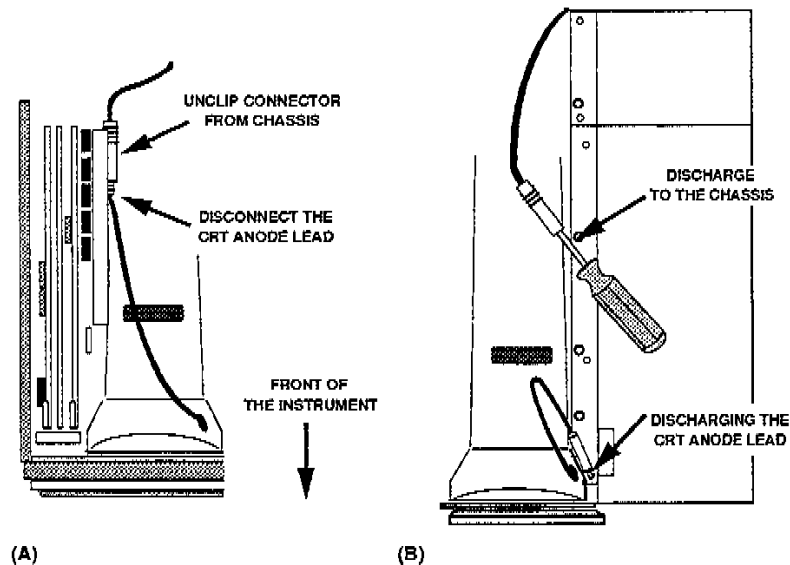

Figure 4-32. Discharging the CRT anode lead to the chassis.
1. Disconnect the ceramic connector above the CRT, refer to Figure 4-32 (A).
3. Insert the metal end of the male connector into one of the empty holes at the top of the card cage, refer to Figure 4-32 (B). Be certain the metal connector is touching the chassis.
4. Insert the blade of an insulated screwdriver into the female connector and short the blade to the chassis, refer to Figure 4-32 (B).
1. Remove the Processor System card cage cover to gain access to the CRT anode connector, and then discharge the CRT anode connector as described in Figure 4-32.
- Disconnect the ceramic insulator above the CRT; refer to Figure 4-32 (A).
- Insert the metal end of the male connector into one of the empty holes at the top of the card cage, refer to Figure 4-32 (B). Be certain the metal connector is touching the chassis.
- Insert the blade of an insulated screwdriver into the female connector and short the blade to the chassis, refer to Figure 4-32 (B).